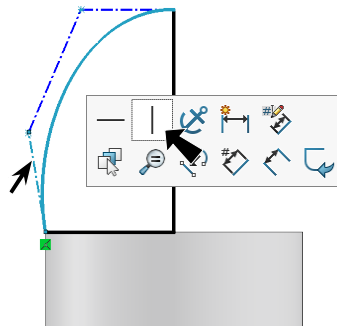
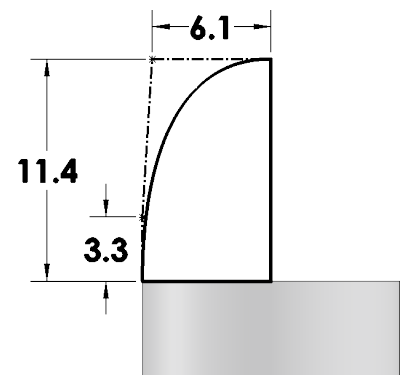

Fig. 10
Fig. 11
Step 9. Click **bottom control polygon segment** and click **Make Vertical**  on the context toolbar, **Fig. 10**.
Step 10. Click **Smart Dimension**  (S) on the Sketch toolbar.
Step 11. Add dimensions, **Fig. 11**.